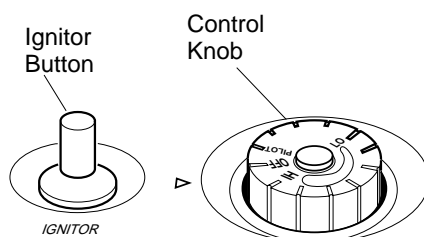

Figure 15 - Control Knob In The OFF Position
4. Wait five (5) minutes to clear out any gas. Then smell for gas, including near the floor. If you smell gas, STOP! Follow "B" in the safety information on page 10. If you don't smell gas, go to the next step.
5. Turn control knob counterclockwise to the PILOT position. Press in control knob for five (5) seconds (see Figure 15).
**Note:** If pilot goes out, repeat steps 3 through 7. This heater has a safety interlock system. Wait one (1) minute before lighting pilot again.